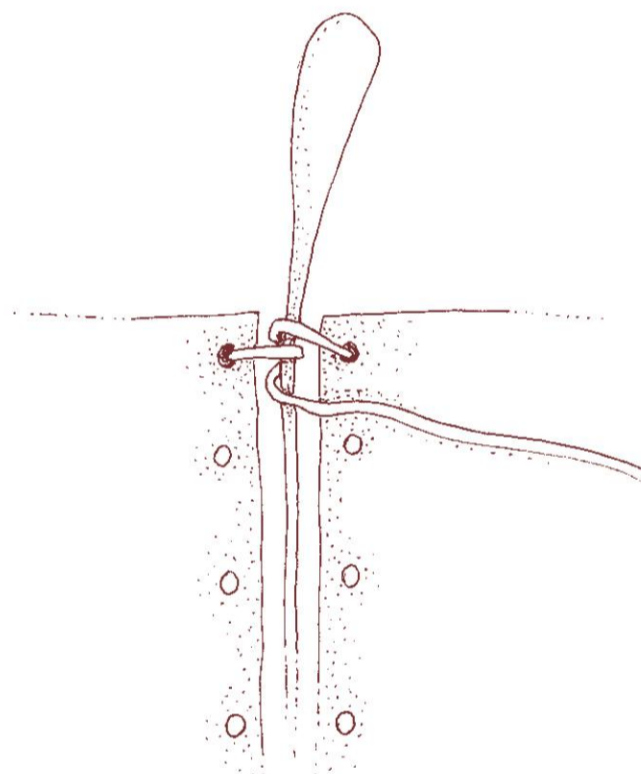

*Figure 2*
**6** Burn one end of the 26-gauge silver wire to create a ball. Start the stitching process by threading the wire from the back side to the front on one of the end holes (see figure 2).